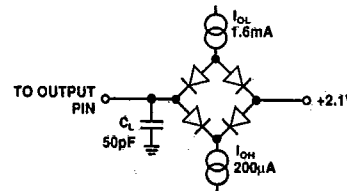

Figure 2. Load Circuit for Output Float Delay
- ⁴ t_7 is derived from the measured time taken by the data outputs to change 0.5 V when loaded with the circuit of Figure 2. The measured number is then extrapolated back to remove the effects of charging or discharging the 50 pF capacitor. This means that the time, t_7 , quoted in the Timing Characteristics is the true bus relinquish time of the part and is independent of bus loading.